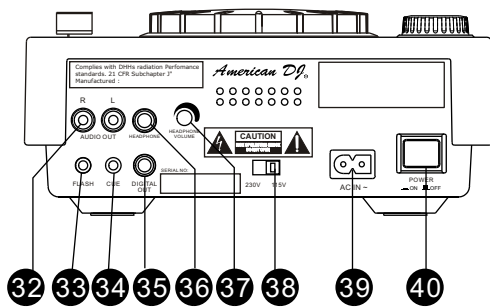

Figure 4
22. (+) PITCH BEND Button - The (+) pitch bend function creates a momentary "BUMP" in the CD's BPM's (Beats per minute) while it is playing. This will allow you to match the beats between two playing CD's or any other music source. Remember, this is a momentary function. When you remove your finger from this button, the BPM's will automatically return to **PITCH SLIDERS (17)** selected pitch. Holding down this button will give a maximum of +100% pitch.
23. PITCH PERCENTAGE BUTTON - This button will change the pitch percentage the **PITCH SLIDER (17)** will react to. The pitch percentage can be changed between 8%, 12%, and 16%. 8% will allow the least amount of pitch manipulation and 16% will allow the most amount of pitch manipulation. To adjust to the different values tap this button. The LED above the **PITCH PERCENTAGE BUTTON (24)** will indicate which pitch percentage mode you are in, glowing green for 8%, glowing orange for 12%, or glowing red for 16%. Note, the pitch button has to be turned on to get a LED reading.
24. PITCH ON/OFF BUTTON - This button is used to turn the **PITCH SLIDER (17)** function on and off. The **PITCH BUTTON's** LED will indicate the pitch function has been activated.
25. TIME BUTTON - The TIME button will switch the time value described in the **TIME METER (56)** between ELAPSED PLAYING TIME, TRACK REMAINING TIME, and TOTAL REMAINING TIME.
B. REAR PANEL (FIGURE 4)
33. FLASH MINI JACK - This jack will allow you to use the crossfader of a compatible American DJ "Q" series mixer to activate any of three samples that may be stored in the **FLASH BUTTONS (6)**. Connect the supplied mini-plug from FLASH jack on the rear of your unit to a compatible American DJ mixer's CONTROL out.